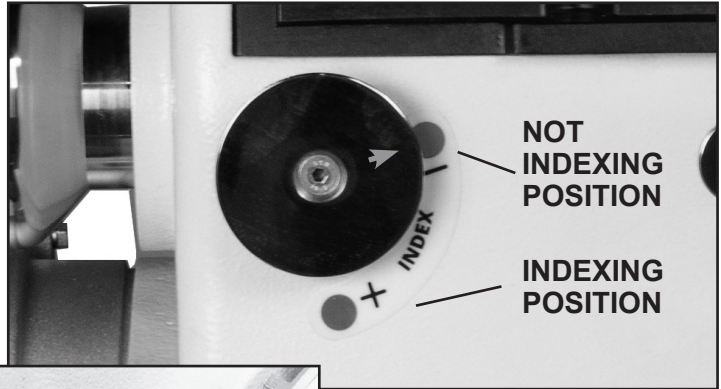

FIG. 34
Conveniently located on the front of the headstock, the Index Pin Assembly (FIG. 34 & 35) is used to hold and position the spindle for making accurate, spaced pattern work on projects such as straight fluting, grooving, drilling, detail carving, wood burning patterns and laying out designs and more.
- Rotate the Index Knob (FIG. 34) from the 'not-indexing' position (red dot -) down to the 'indexing position' (green dot +). This will insert the Index Pin's shaft into one of the Spindle Pulley's holes, locking the spindle in place.